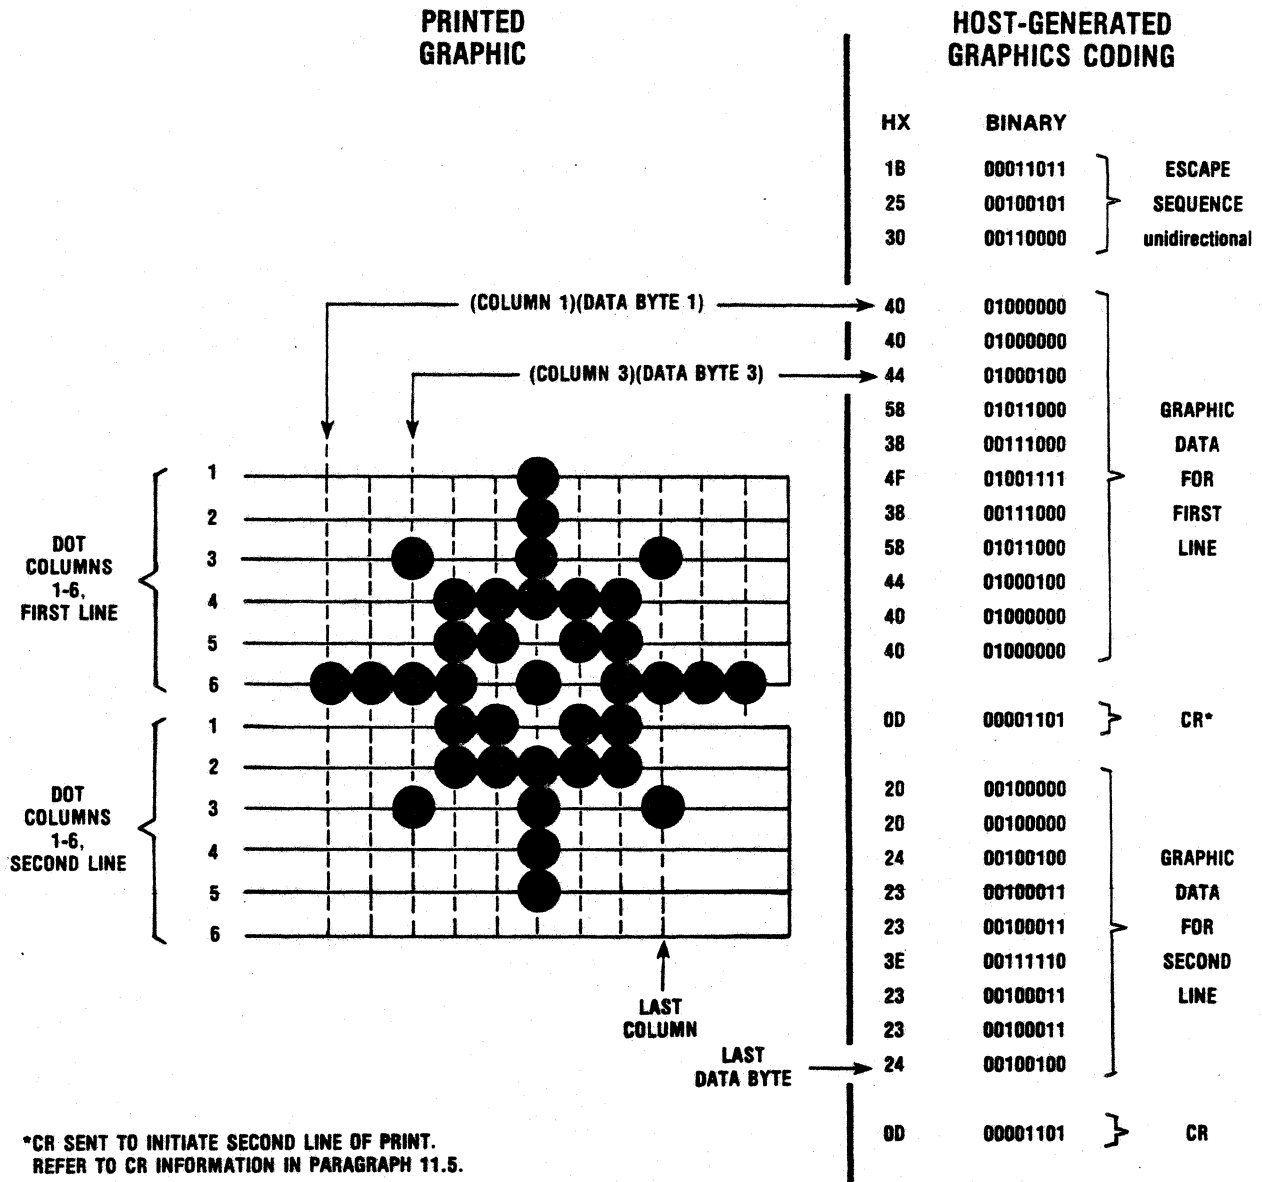

Figure 11-6 Graphics Coding/Printing
**SAMPLE GRAPHIC CODING**—Figure 11-6 illustrates a simple graphic formation printed in graphics mode. The graphic data that was sent to the printer to initiate the print is shown to the right.